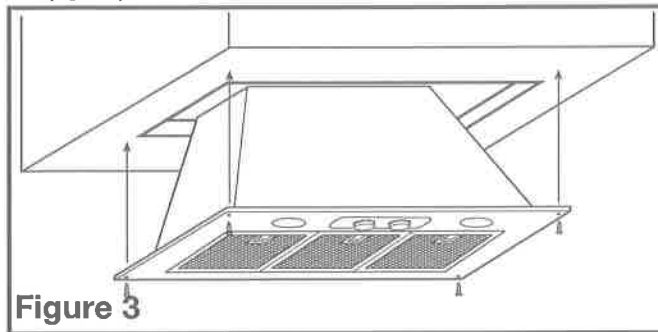

Figure 3
2. Insert the power unit into the hole and secure to liner using the screws provided with the Lner (**Figure 3**).